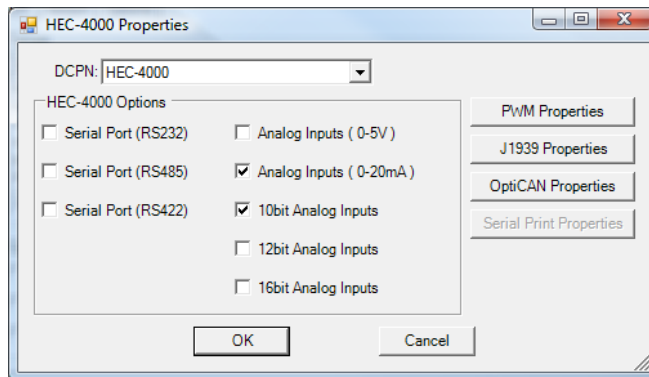

Figure 2.8 - HEC-4000 Properties Window
2. Click the **PROPERTIES** button. The HEC-4000 Properties Window will open. Refer to Figure 2.8.